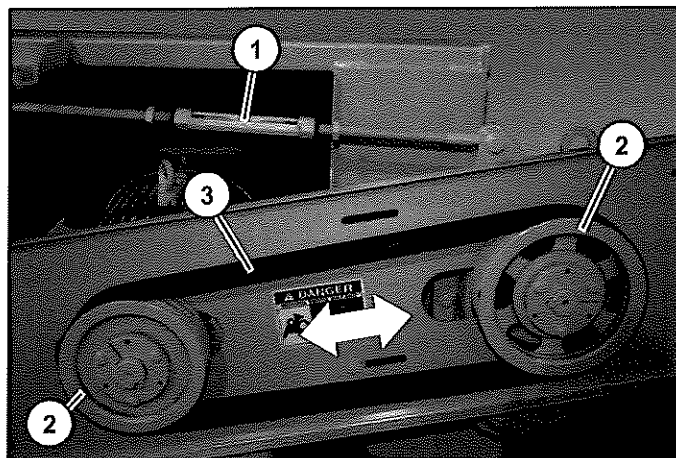

Figure 139
2. Once the guard is removed, turn the turnbuckle on the torque arm (Item 1) to bring the sheaves (Item 2) closer together (**Figure 139**).
3. When the v-belts (Item 3) (**Figure 139**) are loose, remove and replace.